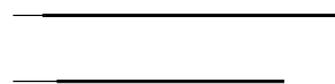

Figure 1.
1. Cut two pieces of insulated copper wire, about 10 cm and 12 cm, respectively. Strip about 1.5 cm of insulation off the end of the shorter wire and about 1 cm off the end of the longer wire (Figure 1).